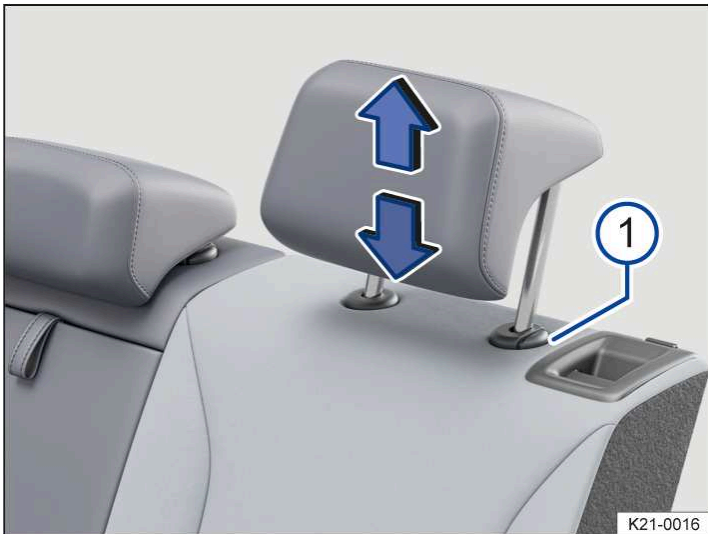

Fig. 2 Adjusting a rear head restraint (illustration).
1. While pressing the button → Fig. 2 (1) if necessary, push the head restraint up or down in the direction of the arrows.